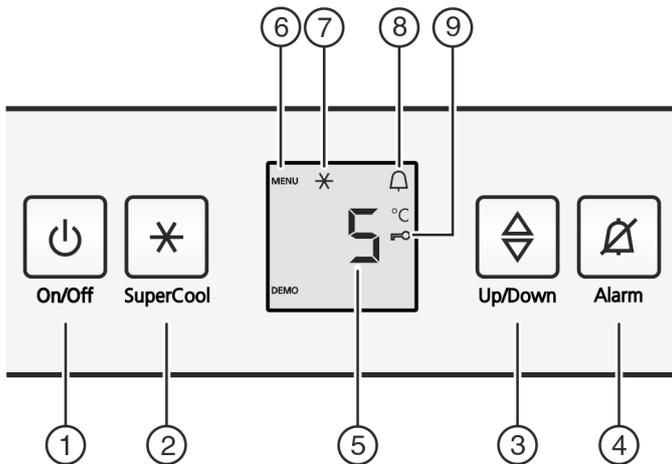

Fig. 2
- ▶ Press the On/Off button Fig. 2 (1).
- ▶ Press the SuperCool button Fig. 2 (2) for about 5 seconds.
- ▷ The Menu symbol is shown on the display, Fig. 2 (6).
- ▶ Confirm briefly with the SuperCool button Fig. 2 (2).
- ▷ The child lock symbol, Fig. 2 (9), lights up on the display.
- ▶ Briefly press the On/Off button Fig. 2 (1).
- ▶ Press alarm button Fig. 2 (4).
- ▶ Call up temperature function: press the setting button *Fig. 2 (3)*.
- ▶ Change the temperature in 1 °C steps: Press the setting button *Fig. 2 (3)* until the required temperature is indicated in the temperature display.
- ▶ Briefly press SuperCool button *Fig. 2 (2)*.
- ▷ The SuperCool *Fig. 2 (7)* symbol lights up in the display.
- ▷ The SuperCool symbol *Fig. 2 (7)* goes out in the display.